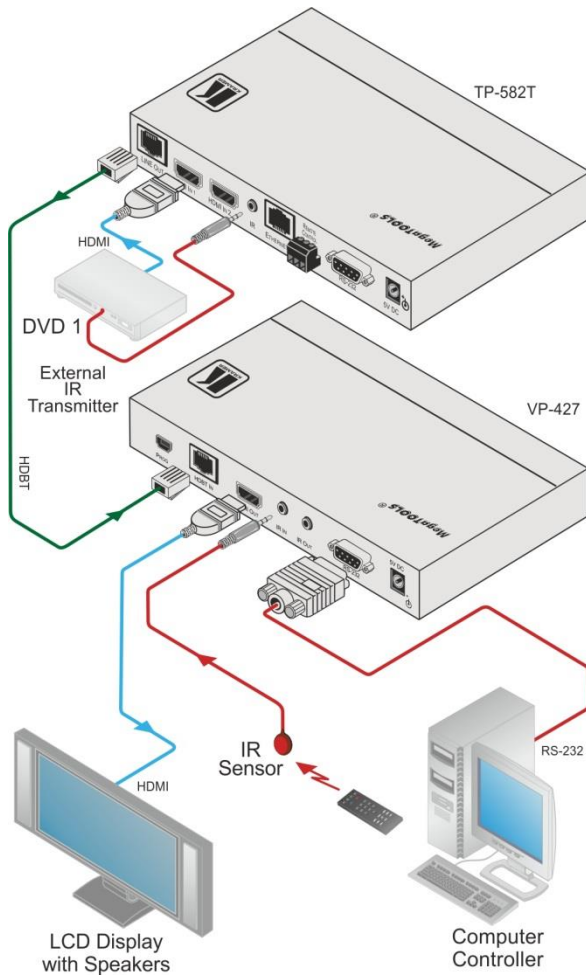

Figure 2: Connecting the VP-427 HDBaseT to HDMI Receiver/Scaler
To connect the **VP-427** as illustrated in the example in Figure 2:
6. Connect the 5V DC power adapter to the power socket and connect the adapter to the mains electricity (not shown in Figure 2).